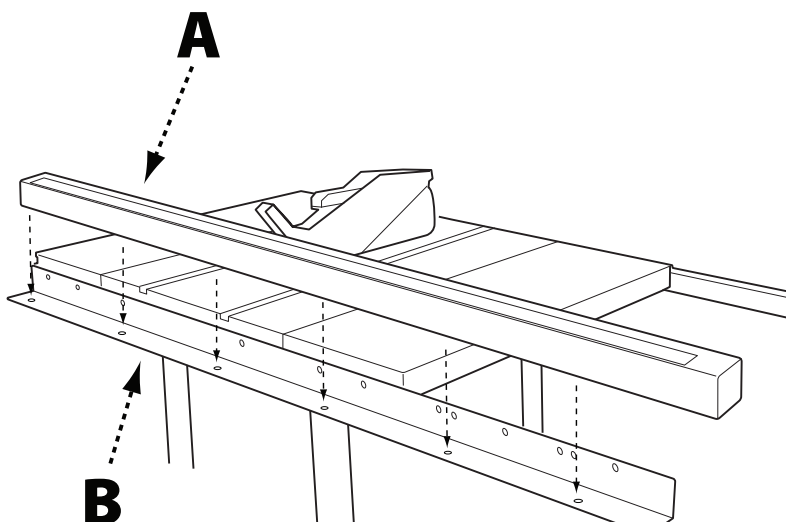

FIGURE 10
1. Align the holes on the bottom of the guide rail with those of the front guide rail (A) as illustrated in Figure 10.